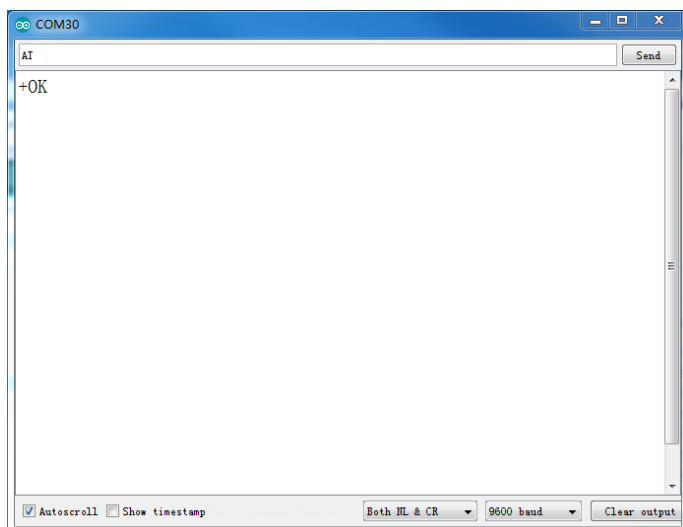
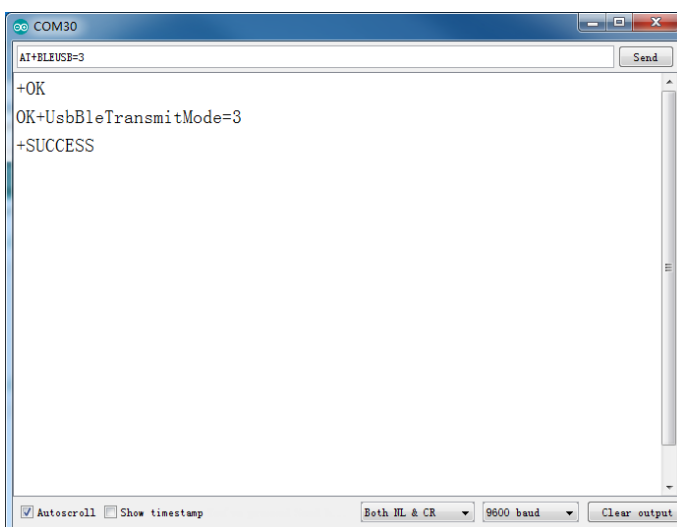

Figure 1.11
Figure 1.12
- 2) The test AT instruction is shown in figure 1.11. The USB and bluetooth data transmission mode of BLE-Nano is set as USB serial port data and BLE transmission as shown in figure 1.12